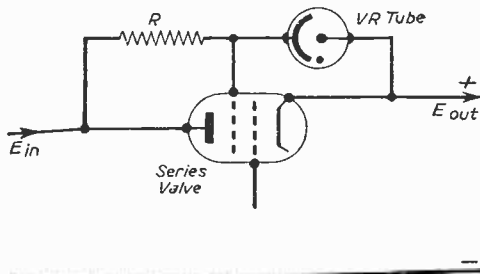

Fig. 11.—The screen grid is maintained at a constant potential with respect to the cathode by means of a voltage regulator tube.
8.—*Obtaining Better Regulation.* It was mentioned in the theoretical considerations that the series valve should have a high amplification factor. One way to do this is to connect the series valve as a pentode. This is readily achieved by maintaining the screen grid at a constant potential with respect to the cathode by means of a voltage regulator tube, as shown in Fig. 11. A VR105 can be used in this position as the absolute stability of the screen potential is not essential. Care must be taken when calculating the value of R that the maximum permissible current through the tube is not exceeded. This current will be maximum when no load is taken from the power unit. It will be minimum when full load is taken out, and there it must not be too low as to cause the extinction of the tube. R1, of course, should be of the wire-wound type and capable of dissipating the required power.